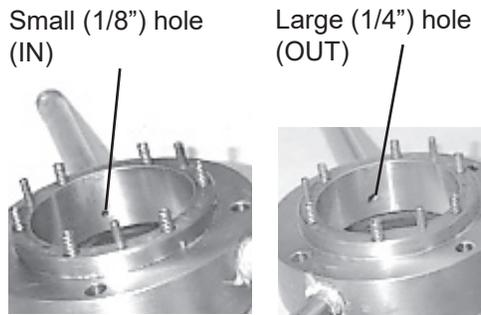

Figure 19 - Water flush system
3. The seal water to the mill must be connected to the gland connection marked IN (the ports are stamped “IN” and “OUT”). The inlet of the gland contains the smaller (1/8”) hole. The outlet contains the larger (1/4”) hole. (See Figure 19).